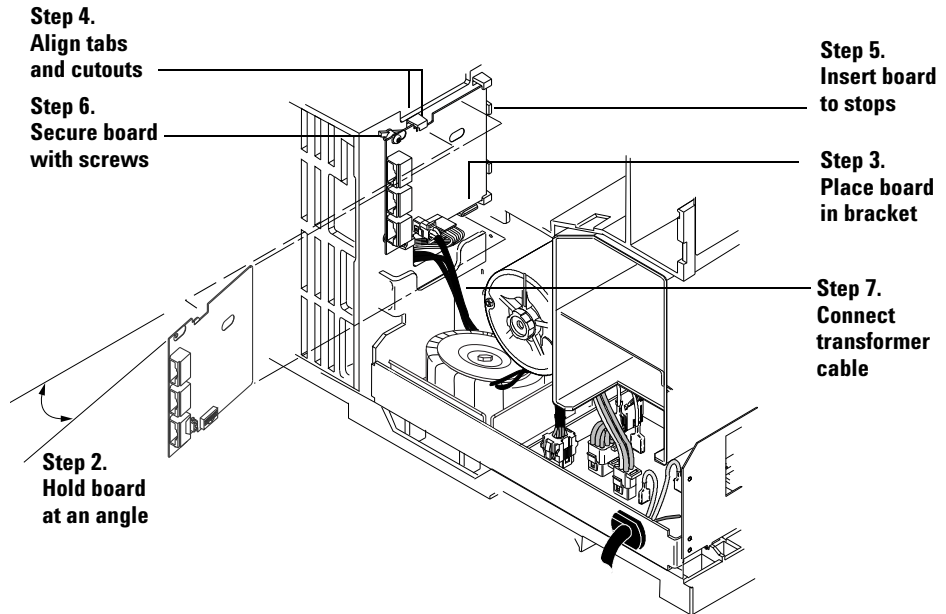
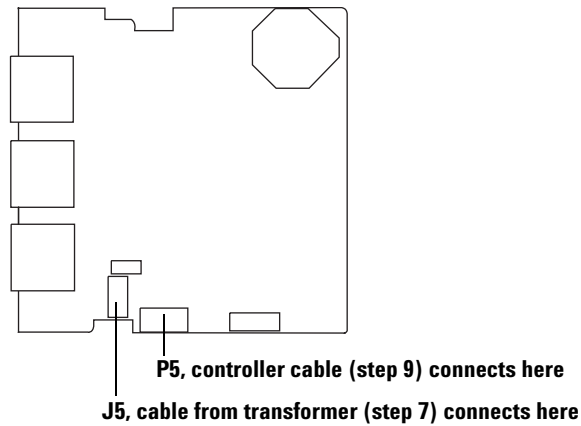
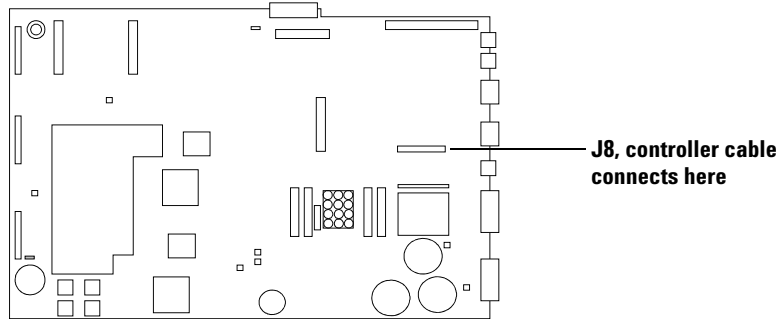

Figure 25 Installing the ALS interface board
Figure 26 ALS interface connectors
Figure 28 GC main board
- 2 Hold the board upright and slightly angled (Figure 25).
- 6 Secure the board to the chassis using two screws. The board should not be stressed or bowed against the locking tab (Figure 25).
- 7 Locate the 2-wire cable leading from the transformer and connect it to the ALS Interface board at J5. (Figure 25 and Figure 26).
- 9 Connect the Controller PCB Cable, part no. G2612-60510, to the main board at J8 and to the ALS Interface board at P5. Route the cable through the cutout in the main board (Figure 26 and Figure 28).